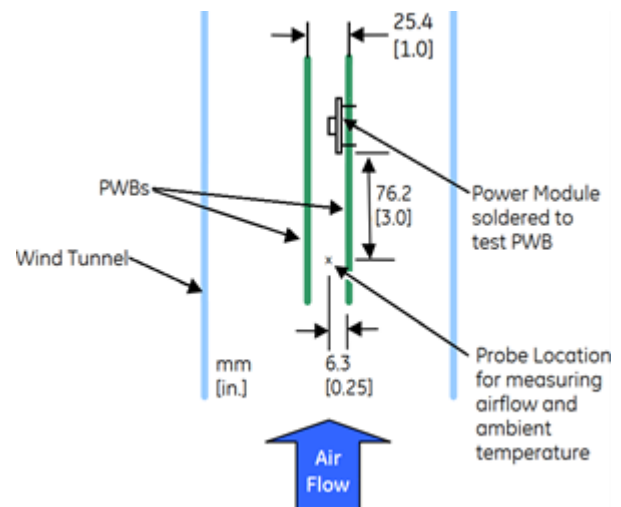

Figure 17. Thermal derating test setup.
The JNCW016A0R module provides a non-latching over temperature protection. A temperature sensor monitors the operating temperature of the converter. If the reference temperature,  $T_{ref1}$ ,  $T_{ref2}$  (see Figure 17) exceeds a threshold of 103°C (typical), the converter will shut down and disable the output. When the base plate temperature has decreased by approximately 20°C the converter will automatically restart. The module can be restarted by cycling the dc input power for at least one second or by toggling the remote on/off signal for at least one second.